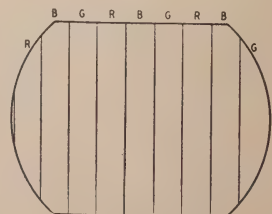

Fig. 3—Pattern at thrice line frequency.
the horizontal line frequency lower than 3.579545 mc, two rainbows will be produced on the color kinescope, and so on. Fig. 3 shows three rainbows.
4. The generator may be adjusted to produce several rainbows (see Fig. 3) for showroom demonstrations of color TV sets.